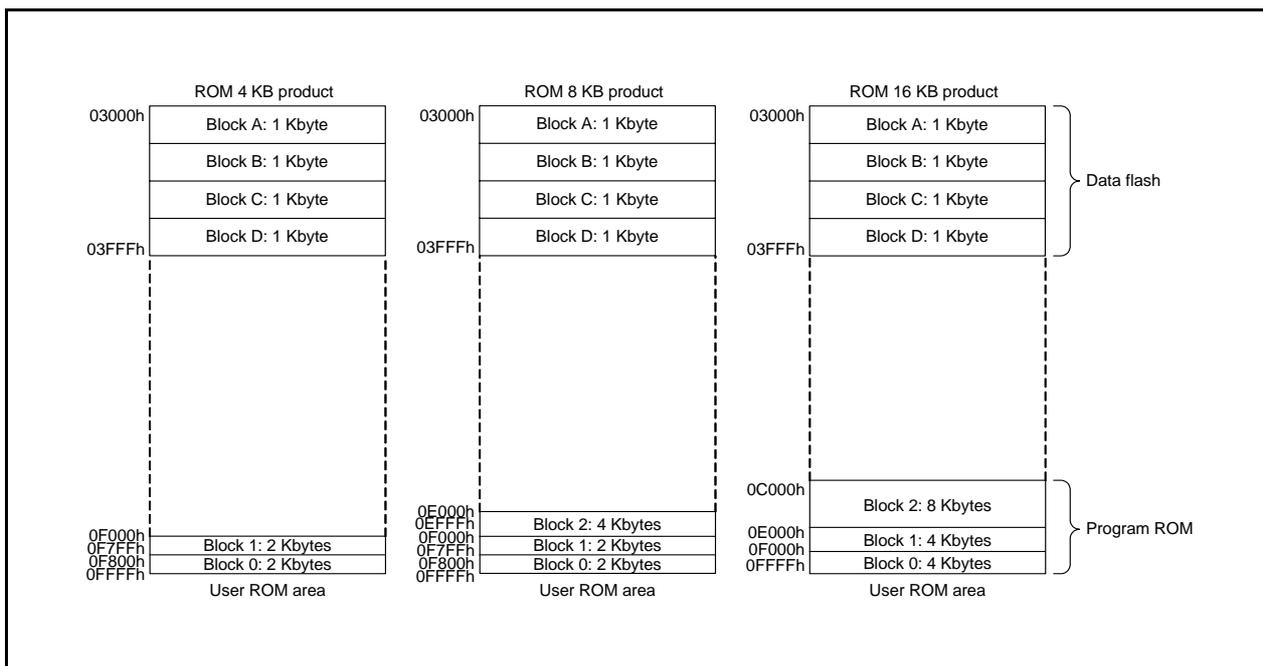

Figure 29.1 R8C/32C Group Flash Memory Block Diagram
- The number of blocks and block division vary with the MCU. Refer to **Figure 29.1 R8C/32C Group Flash Memory Block Diagram** for details.
Figure 29.1 show the R8C/32C Group Flash Memory Block Diagrams.